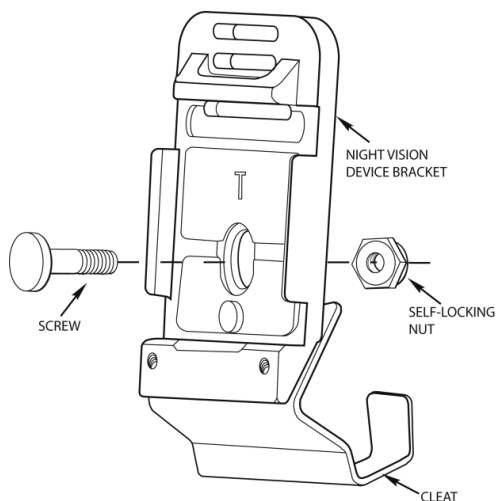
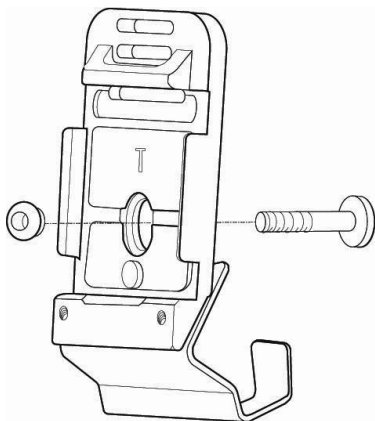

Figure 2. New (Tan) ACH NVG Bracket Assembly and Hardware.
Figure 3. New ACH NVG Bracket Assembly with Slotted Flathead Screw and Locking Nut.
There are two different sets of hardware for the new ACH NVD bracket: a flathead screw with a self-locking nut shown in Figure 2 and a slotted, flathead screw with a locking nut shown in Figure 3. The slotted flathead screw inserts from inside the helmet and the nut seats on the outside of the bracket as shown in Figure 3.
- Obtain the screw and self-locking nut for the new ACH NVG bracket (Figure 2).
- Obtain the slotted flathead screw and locking nut for the new ACH NVG bracket (Figure 3).
- b. For the tan (new) ACH bracket shown in Figure 2, insert the screw from the outside of the helmet and attach the self-locking nut on the inside of the helmet.
- c. For the new ACH bracket shown in Figure 3, insert the screw from the inside of the helmet and attach the locking nut on the outside of the helmet.